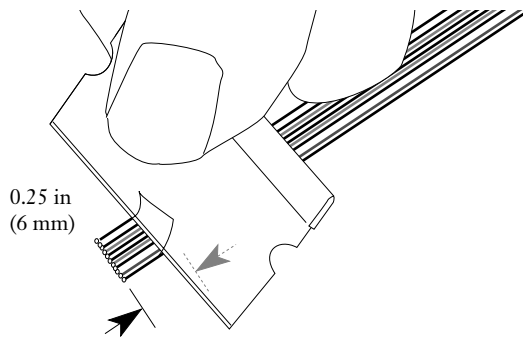

Figure 8
**6.3** At the ribbon end, use a razor blade to shave off 0.25 in. (6 mm) of the bond material on one side of the ribbon (Figure 8).